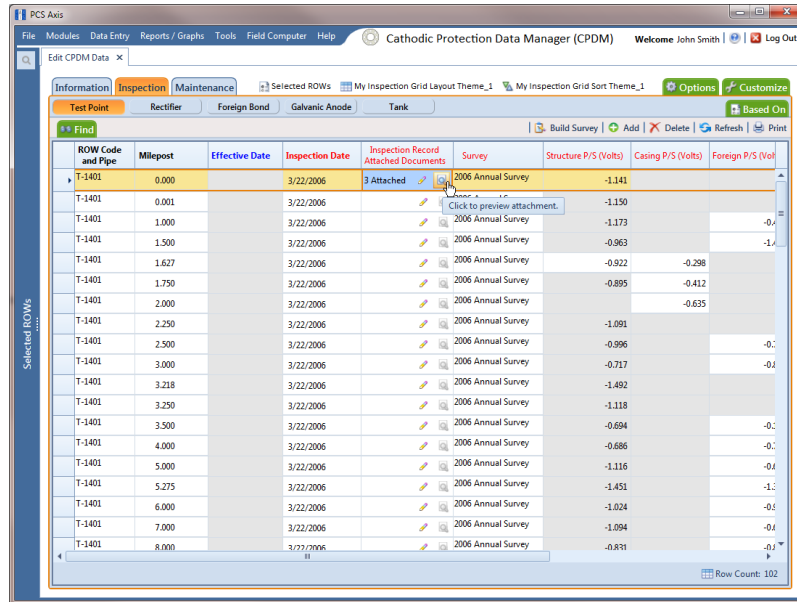

Figure 7-138. View Attached Document
- 4 Click the preview icon  for the grid record with the attached document (Figure 7-138).